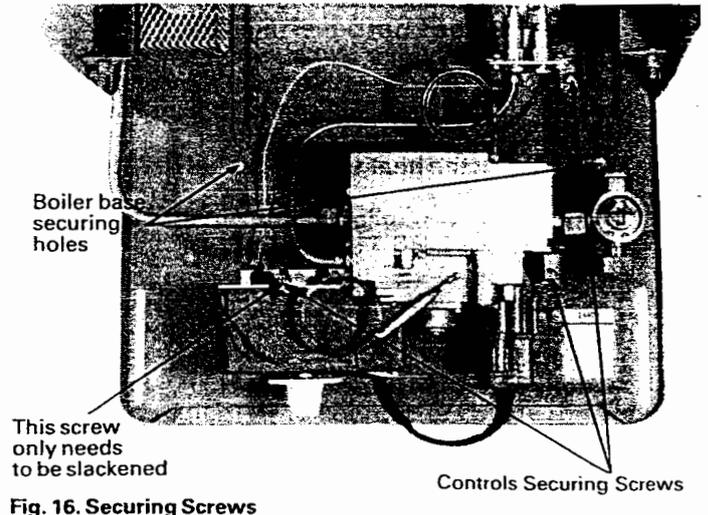
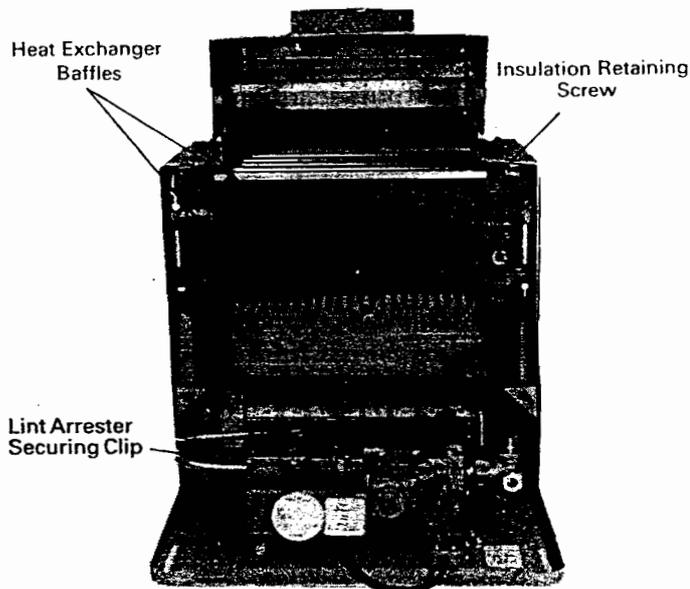

Fig. 16. Securing Screws
Fig. 17. Combustion Chamber
8. Remove the burner and controls complete (3 screws - Fig. 16) and remove the clip securing the lint arrester to the base of the appliance (Fig. 17). Remove the lint arrester.
9. Slide out the heat exchanger baffles, noting their positions (Fig. 17).
10. Remove the rear insulation by removing the retaining screw and washer (Fig. 17).
Brush out the bottom of the combustion box and then replace the insulation panels and the heat exchanger baffles, ensuring the one with the turned up edge is on top (Fig. 17).
Insulation in Combustion Chamber (Fig. 17)